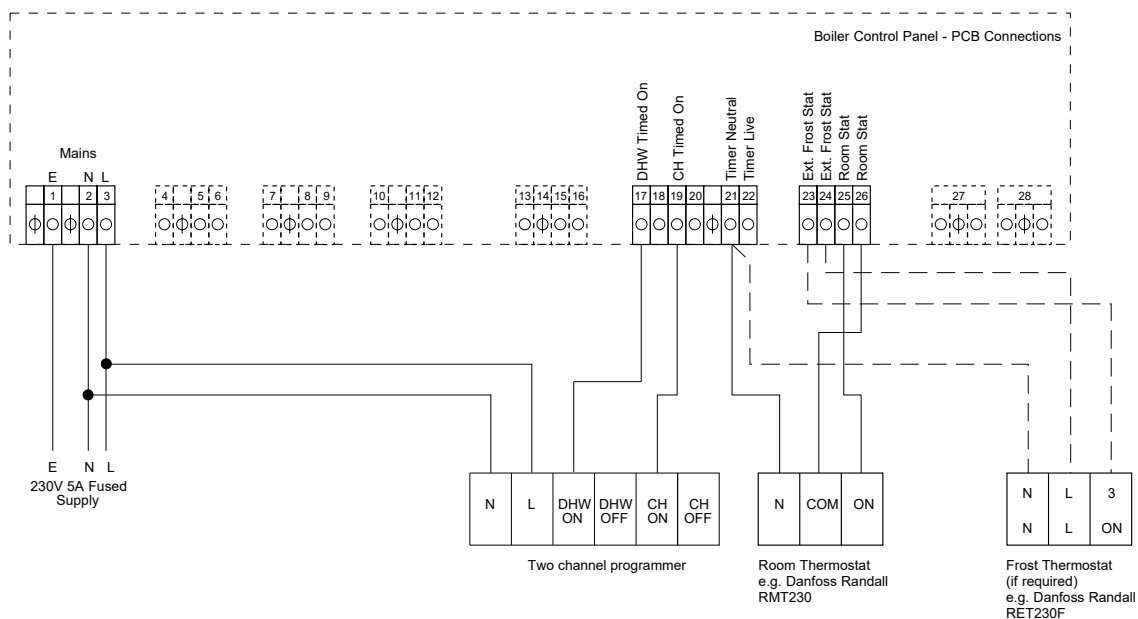

Figure 8-4: Connections for remote two channel programmer and room thermostat
The remote two-channel programmer must be suitable for 230V and internally linked. Refer to Figure 8-4 for connection details.
6. Remove the Orange room thermostat link wire from terminals 25 & 26 on the connection block and connect the wires from the room thermostat. Refer to Figure 8-4 for further details
9. Remove the red link between terminals 17 & 18 and the black link between terminals 19 & 20 on the boiler terminal block. Connect the two switch wires from the programmer as shown in Figure 8-4.
10. Connect the live, neutral (and earth if required) from the timer to terminals 3, 2 & 1 respectively on the boiler terminal block. Refer to Figure 8-4 for further details.